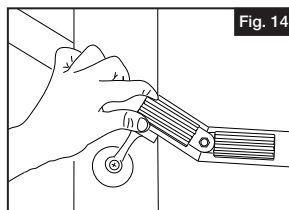

Fig. 14
2. Position the adjustable joiner on the outside of the Hand Rail and tighten the bolt at the appropriate angle (Fig. 14).